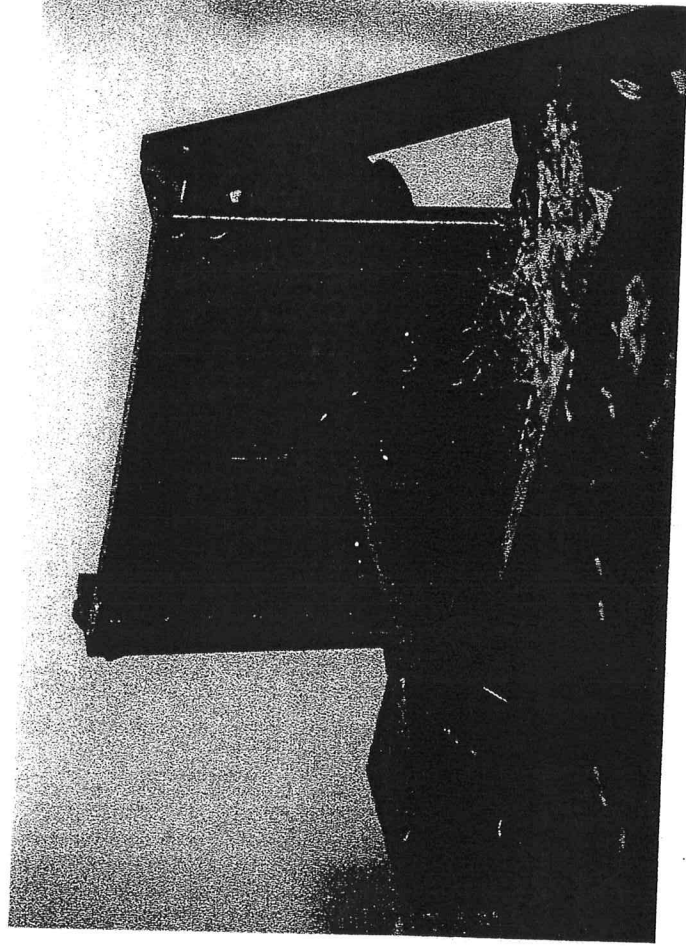

Fig. 12
4. Lower table 10 turns and cut another groove in workpiece B. (fig. 12)